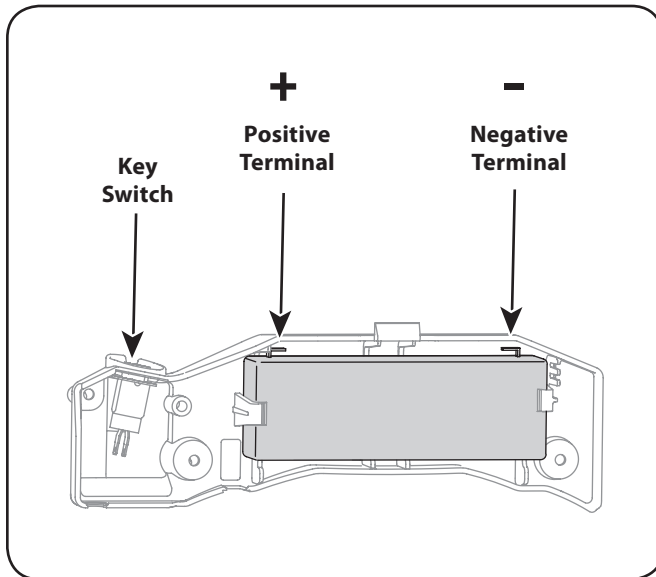

Figure 7-3
- Carefully remove old battery and replace with new one. Connect the positive lead to the positive side of the battery pack, then connect the negative side. See Fig. 7-3.
IMPORTANT: When replacing battery pack in harness assembly, battery pack must be positioned with the positive terminal to the left side and the negative terminal to the right side of panel (Positive terminal is closest to the key switch). See Fig. 7-3. Replacing battery pack incorrectly will cause serious damage.